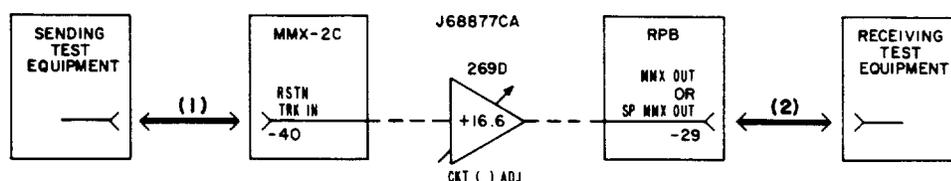

Fig. 1—Transmitting Restoration Trunk for Regular or Spare MMX-2
Note: When signal tracing to locate trouble, remember that the band is flat only at certain jacks as indicated in Fig. 1 through 9. The cable and/or cable equalizers cause slope across the band at other points in the trunks.
◆An interbuilding trunk (SD-50745-01) may be used with the trunks shown in Fig. 1 through 6, 8, and 9 in this section.◆
| 5 | Make patches designated (1) and (2) in Fig. 1. |